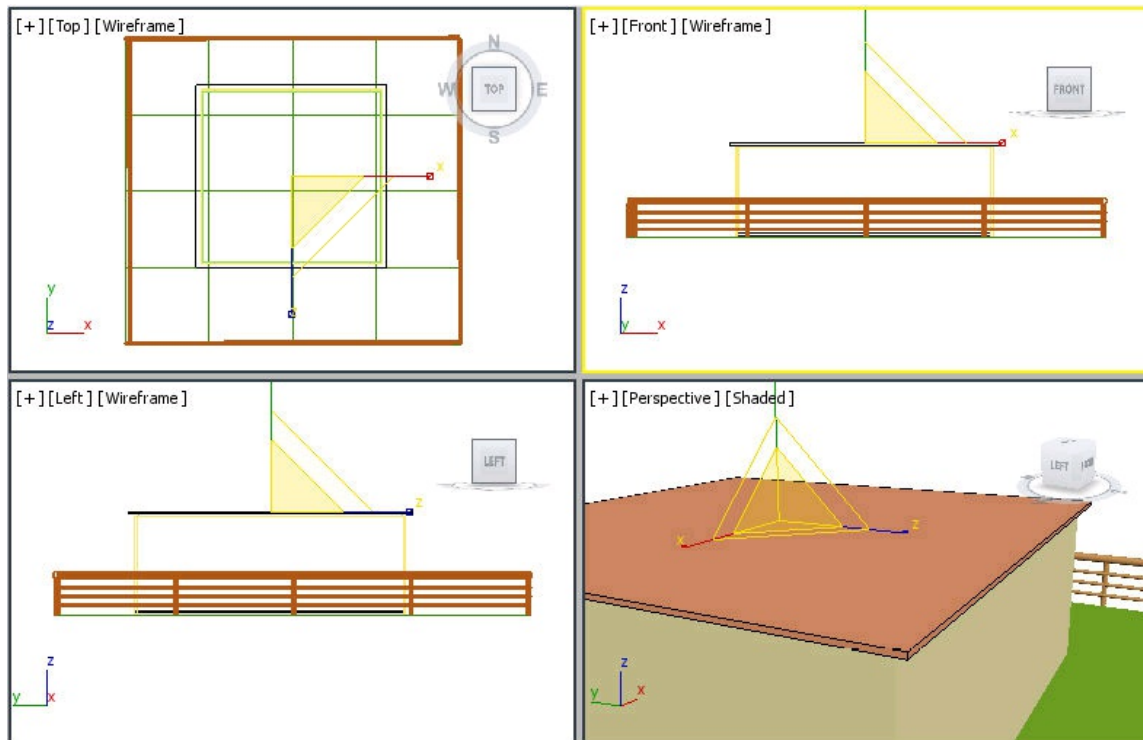

Figure 4-77 The roof fencing geometry after scaling in the Front viewport
19. Right-click on the **Select and Uniform Scale** tool; the **Scale Transform Type-In** dialog box is displayed. Now, in the **Offset: Screen** area, set the value **105** and press ENTER; *rooffencing* is scaled, as shown in Figure 4-77. Close the dialog box.